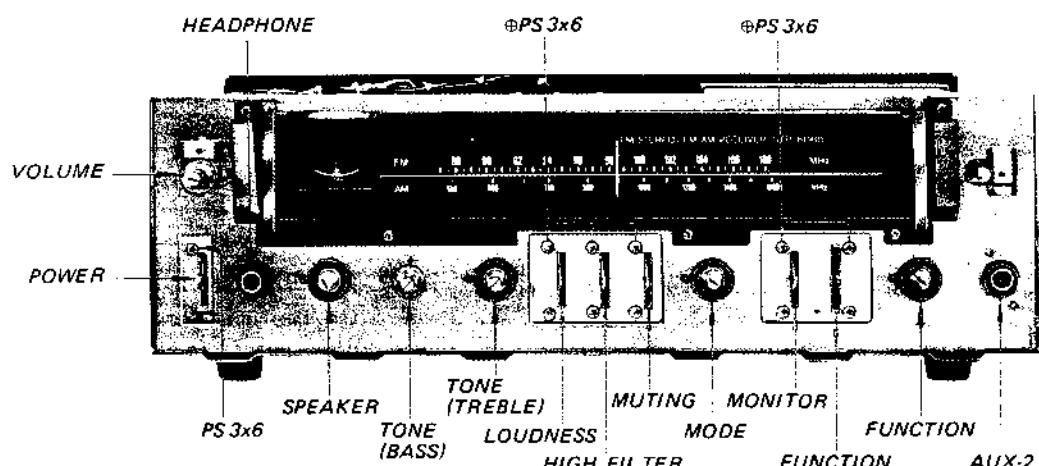

Fig. 2-16. Control and switch replacement
Prepare for replacing any of the controls or switches by removing the wooden case as described in Procedures 2-3 and 2-4. Refer to Fig. 2-16.
1. Remove the two screws ($\#PS\ 3\times6$) securing switches to the front subchassis as shown in Fig. 2-16.
2. Remove the hex nuts that secure the switches to the front-subchassis as shown in Fig. 2-16.